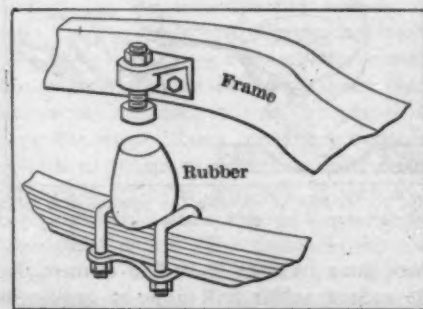

Fig. 4—A rubber insert used to cushion the fall of the body on a rough road
**SUSPENSIONS OFTEN HARSH.**—It is very often the case that while a car rides very easily over the lighter bumps and jounces in a road it will prove exactly the contrary where going of only ordinary roughness is encountered. The cause of this is that the springs are extended to the limit of their capacity, and when the car cannot spring any further the shock is taken up by metal instead of some more elastic material. For this reason in such cars it is very good practice to place a rubber insert at the point shown in Fig. 4. When this is fitted the shock caused by the spring reaching the limit of its throw will be minimized.